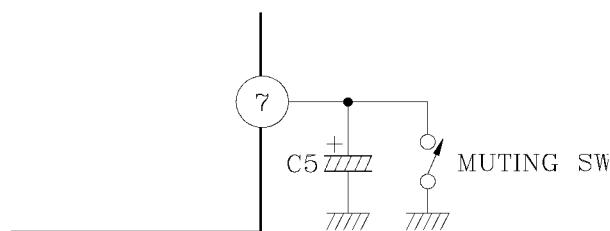

Fig. 3
Audio muting can be accomplished by connecting pin ⑦ (ripple filter) to GND as shown in Fig. 3. Then, the bias circuits are cut off.